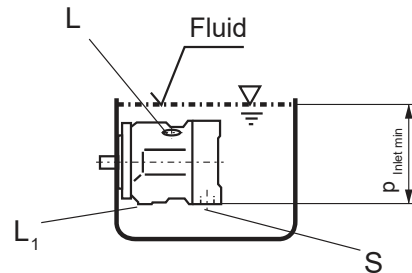

Fig. 3
- a) If the minimum fluid level is above the top of the pump leave ports "L", "L1" and "S" open (see Fig. 3)